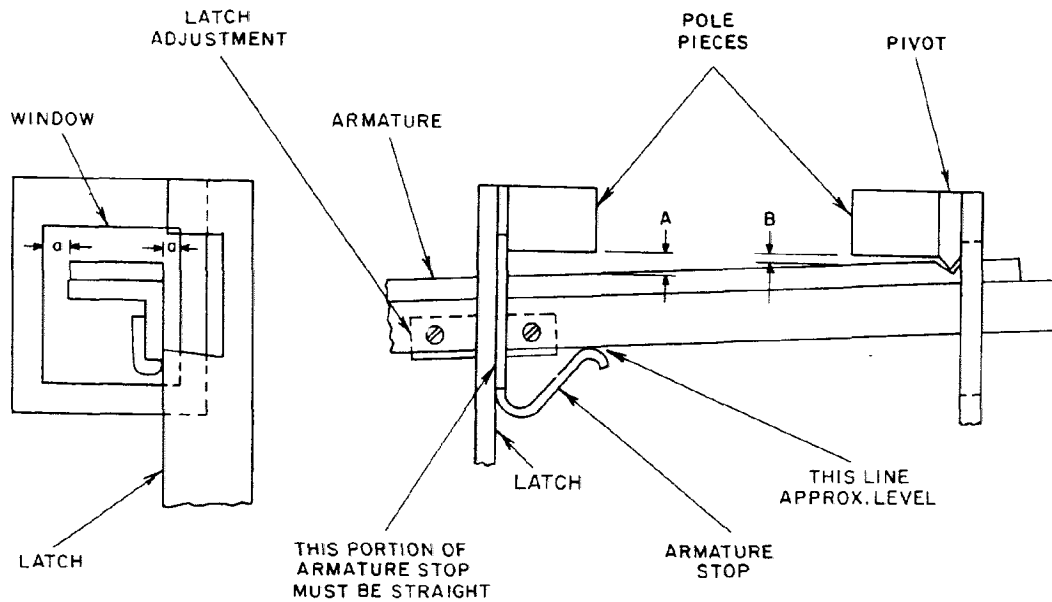

Fig. 19. Relay adjustments.
and -E401 relays. However, minimum tip gap and tip replacement instructions of the latter will apply. The IC2820-1091 relays have a slightly different operating mechanism with different air gaps. (Gaps A and B, Fig. 19.) As on the IC2820-E400 and -E401 relays, the air gaps should not be changed from the original factory setting. Operating mechanism adjustments on the IC2820-1091 relay, when allowed by parts, are the same as for other d-c overcurrent relays.
These instructions apply only to d-c overcurrent relays shipped as separate items for mounting on contactors in the field. These d-c overcurrent relays are completely adjusted and calibrated before shipment. Each relay will require some disassembly and reassembly in the field, which can change the calibration. However, if care is taken in mounting, the adjustments and calibration should not change. Under no circumstances should the relay air gaps (Gaps A and B, Fig. 19) be changed from the original factory setting. Before mounting the relay, first measure and record the air gap dimensions, which should not differ widely from those given in Table 5. Then measure the gaps again after mounting, to make sure they are exactly the same as originally measured.
ADJUSTMENTS (SEE FIG. 19)
1. The air gaps (Gap A and Gap B of Fig. 19) between the armature and the pole pieces, with the armature dropped out against the armature stop, are given in Table 5. These air gaps are given as reference information only as air gaps must be
The support nearest the pivot should be approximately centered. Then, center the armature stop about the armature. The result should leave an equal amount of clearance on either side of the armature to the sides of the windows. Points "a" of Fig. 19).
3. The latch and latch adjustment (see Fig. 19) must be set to meet the following requirements:
b. With the armature dropped back against the latch, Gap A (see Fig. 19) should be 1/16 inch or less.